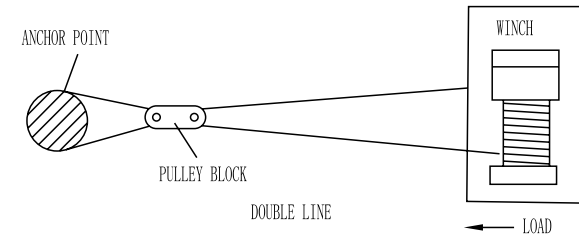

Fig. 10
- A method of rigging used to obtain a mechanical advantage. The use of a pulley block as a traveling block will almost double the winch pulling capacity. (See fig. 10)